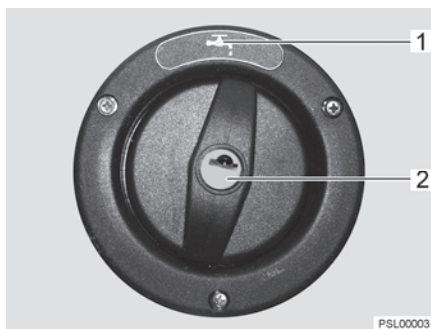

Fig. 106 Cap for the drinking water filler neck
The drinking water filler neck is indicated by the symbol "⚗" (Fig. 106,1). The cap is opened and closed using the key for the external flap locks.
- Insert key into locking cylinder (Fig. 106,2) and turn a quarter turn in an anticlockwise direction.
- Open drinking water filler neck (Fig. 106).